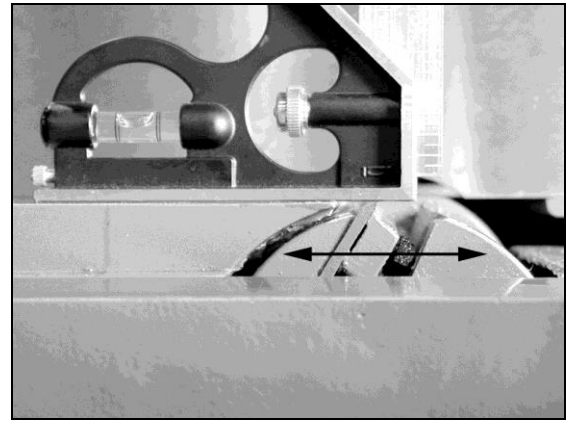

Figure 10
1. Once the knives are set it is now time to set the outfeed table. For proper operation the height of the outfeed table must be set to the highest point of the cutting circle. To do this, set a straight edge on the outfeed table as shown in Figure 10.
2. Carefully watch the height of the straight edge as you gently rock the cutterhead back and forth as shown by the arrows in figure 10. Stop when the knife is at its highest position.